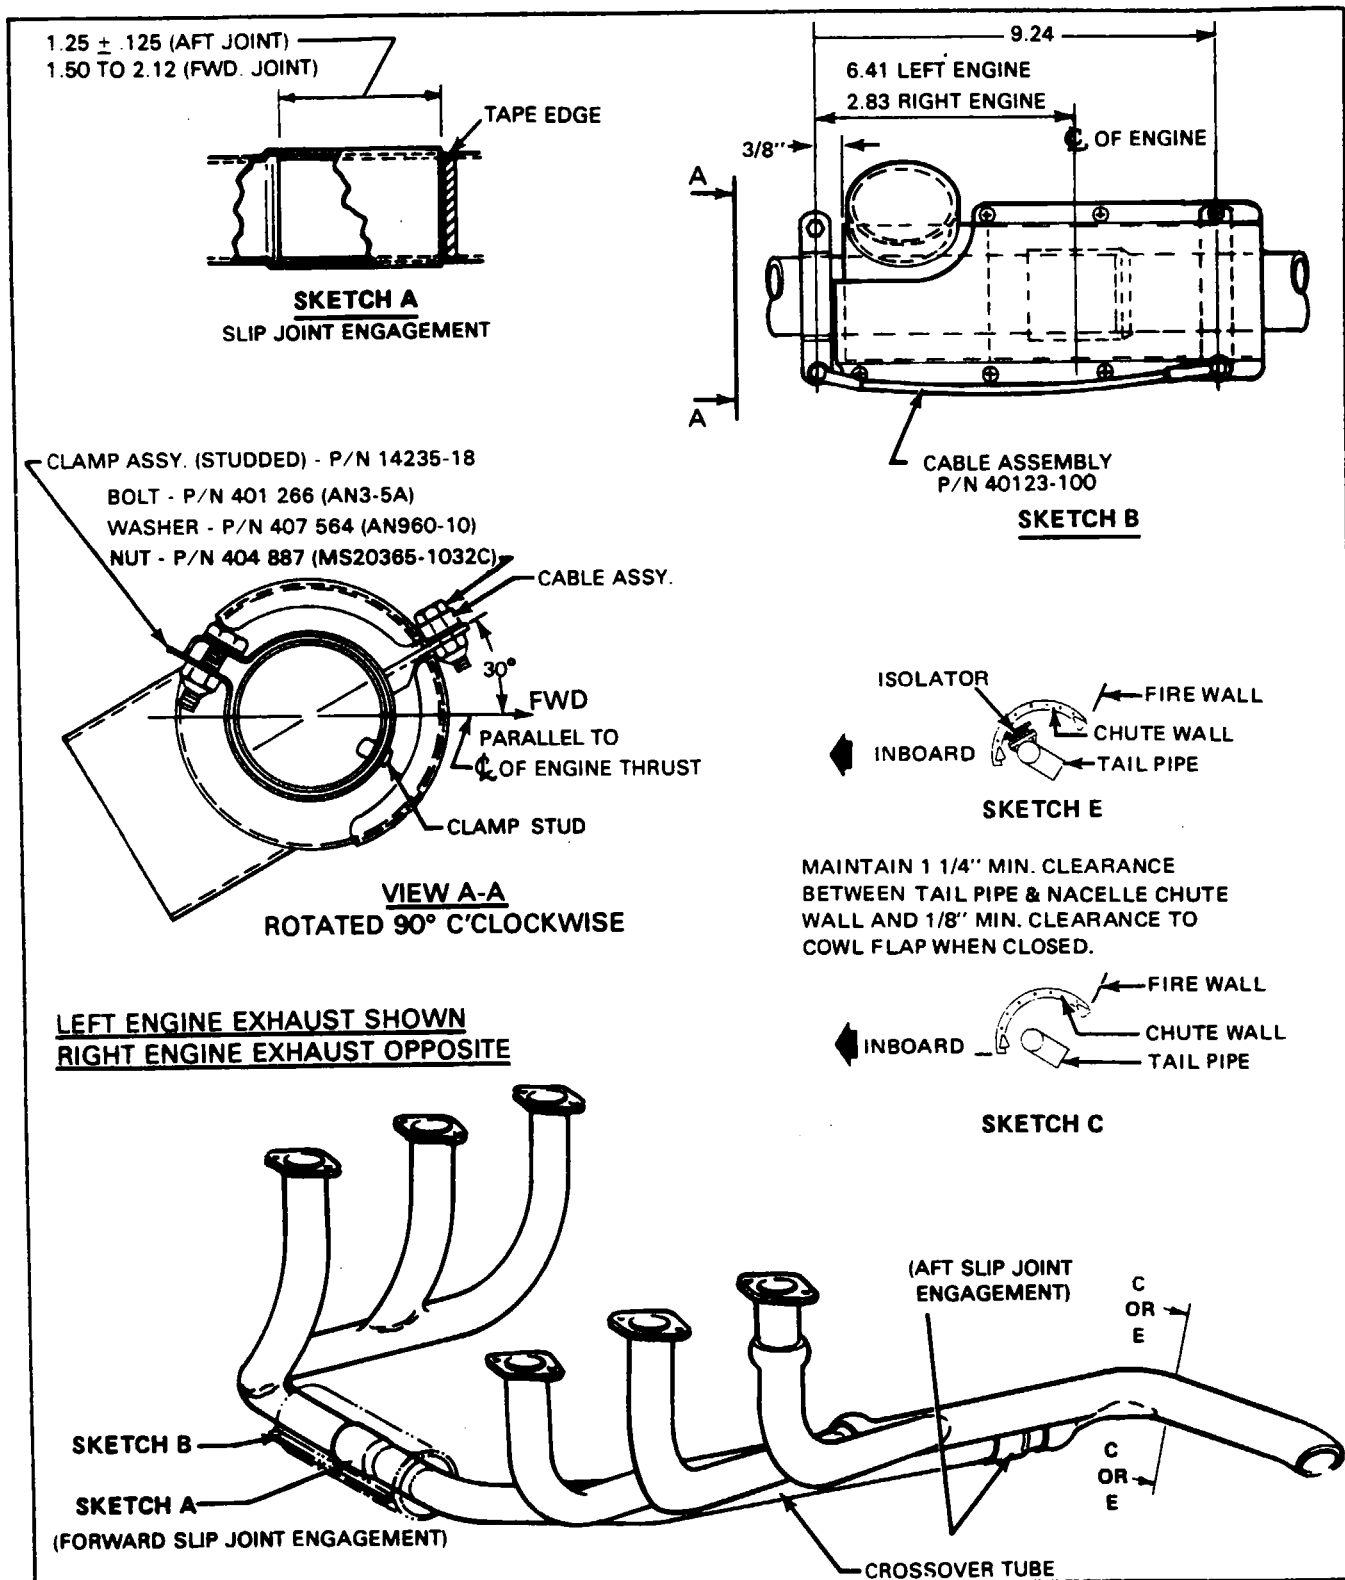

Figure 8-22. Adjustment of Ball Joint Exhaust System
- 8-79. CHECKS AND ADJUSTMENTS OF BALL JOINT EXHAUST SYSTEM. (Refer to Figure 8-22.) Refer to the latest revision of Piper S/B No. 662.
g. Align the ball joint centerline with the centerline of the mating tube, forward and aft of the ball joint as shown in Figure 8-22. Ascertain that the crossover tube is properly positioned in the slip joints by checking the location of the previously made reference marks. Retighten the exhaust system. Measure the distance between the slip joint end and the tape. Subtract this dimension from the dimension recorded in step f. Refer to Figure 8-22 for min./max. slip joint engagement dimensions.
i. Adjust the clamp at the end of the support bracket to securely hold the tube. (Refer to Figure 8-22, Sketch B.)
2. There must be a minimum clearance of 1-1/4 inches between the tail pipe and the fire wall chute, as shown in Figure 8-22, Sketch C. If this dimension is not obtainable, the system is not set properly and should be readjusted.
j. Replace existing shroud assembly with the new assembly P/N 33178-02 and 33178-03. Ascertain that 3/8 of an inch clearance is maintained between the end of the takeoff assembly and the flange on the new shroud. (Refer to Figure 8-22.) The mounting holes in the new assembly should match the existing holes of the clamp assembly. The clamp should be moved to locate the shroud and maintain the end clearance. Attach cable assembly to shroud half retaining screw and studded clamp assembly.
k. Ascertain that the takeoff assembly is securely fastened to the stack; this may require bending the ears of the takeoff assembly down over the stack before tightening the clamp. (Refer to Figure 8-22.)